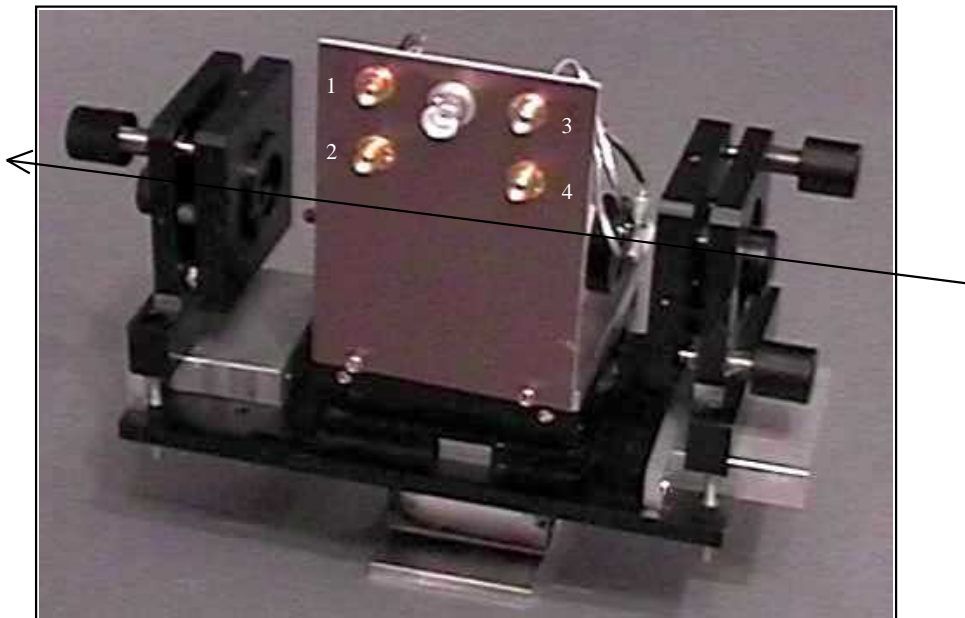

Figure 3 The head showing the connections and direction of light propagation
Note the unit supplied is set up so that the timing is correct when the light enters from the right in figure 3 and the pulser channels are connected as shown.
- 6 With the help of figure 3 locate the four potentiometers that adjust the timing of the trigger signals.